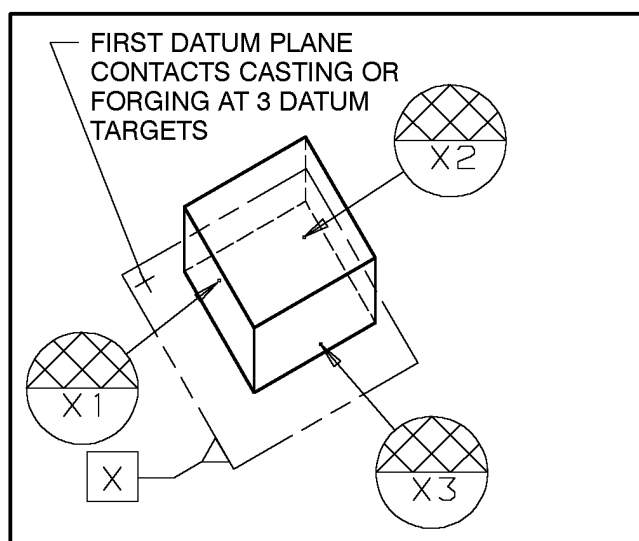
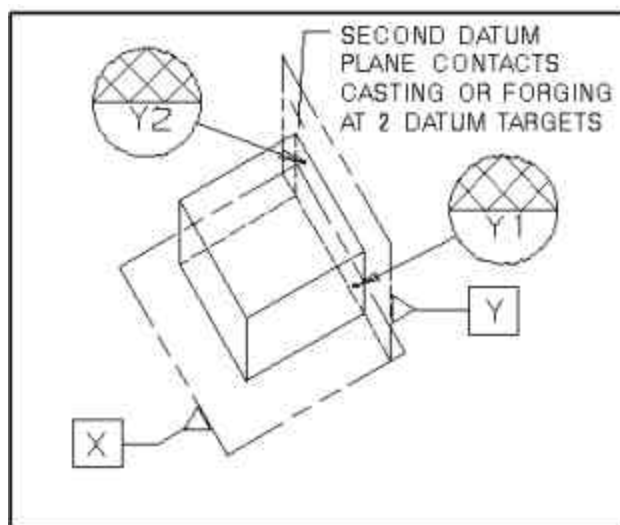

Figure 4 – Datum X – 3 Datum Targets
Figure 5 – Datum Y – 2 Datum Targets
**8.2.1** Three mutually perpendicular datum planes (X, Y, and Z), established by datum targets on the rough cast or rough forged surfaces, form the theoretical planes from which measurements are taken and tolerances applied. (See Figures 4, 5, and 6).
**8.2.3** The block type structure shown in Figure 4 represents a rough casting or forging which is positioned on 3 datum targets (X1, X2, X3) to level the rough casting or forging or make it square with the measuring system. Datum plane X, shown in phantom, is the theoretical plane, established by contacting 3 datum targets, which is used as a reference plane or zero location for all dimensions that are perpendicular to Datum X.
**8.2.5** With Datum X established as in Figure 4, the rough casting or forging is positioned against 2 datum targets that serve to fix or lock it in a horizontal direction to prevent lateral movement.
**8.2.6** Datum plane Y, shown in phantom in Figure 5 as the second datum plane, is the theoretical plane, perpendicular to Datum X, which is established by contacting the two datum targets and is used as a reference plane or zero location for all dimensions that are perpendicular to Datum Y.
**8.2.8** With Datum Plane X established in Figure 4 and Datum Plane Y established in Figure 5, the rough casting or forging is positioned against the final datum target which serves to lock or fix the rough casting or forging and prevents a back and forth movement.